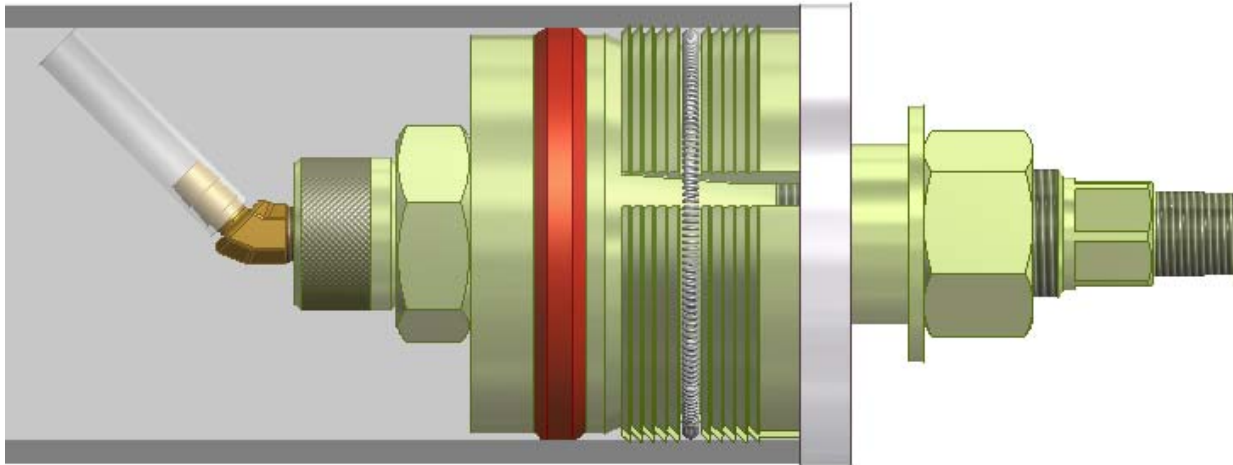

Figure 1 Single Shaft GT Vent Installation
4. Install test plug into pipe, per supplied instructions, with vent assembly pointing up as shown in Figure 1 to allow the maximum amount of gas to be removed from test setup.